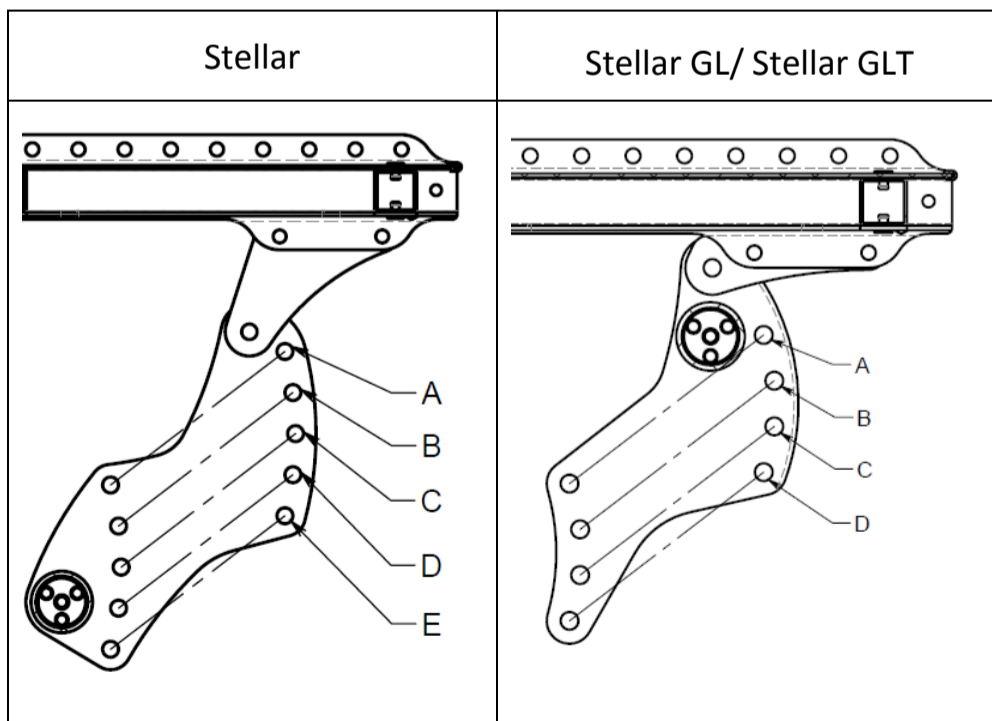

Figure 14.7: Stellar and Stellar GL Chair positions
4. Reposition the sub frame onto the lower frame. There are multiple seat height options for each chair. Refer to Figure 14.7 and Table 14.1. Once the holes on the sub frame, lower frame, and shim are lined up, insert the lower seat height bolt on each side of the frame. This will help with the alignment of the frames. Then refit the upper seat height bolt.